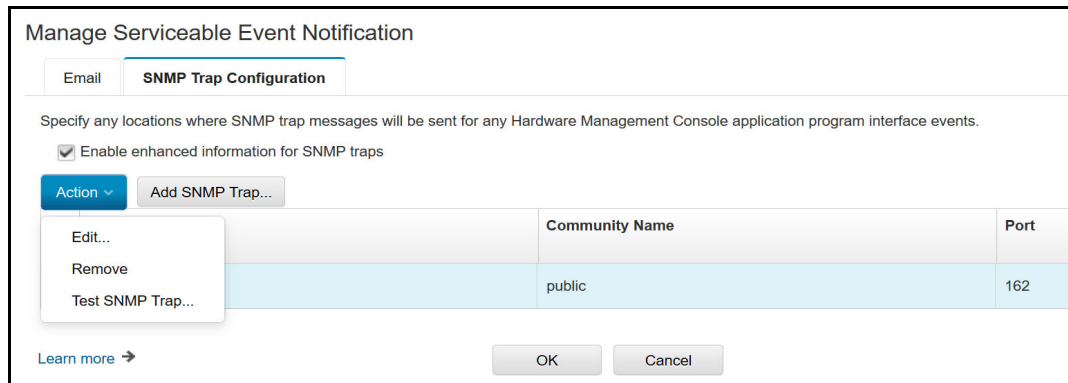

Figure 12-4 HMC test SNMP trap
4. To verify the successful setup of your environment, create a Test Event on your DS8A00 MC by selecting the IP address and **Test SNMP Trap**, as shown in Figure 12-4.